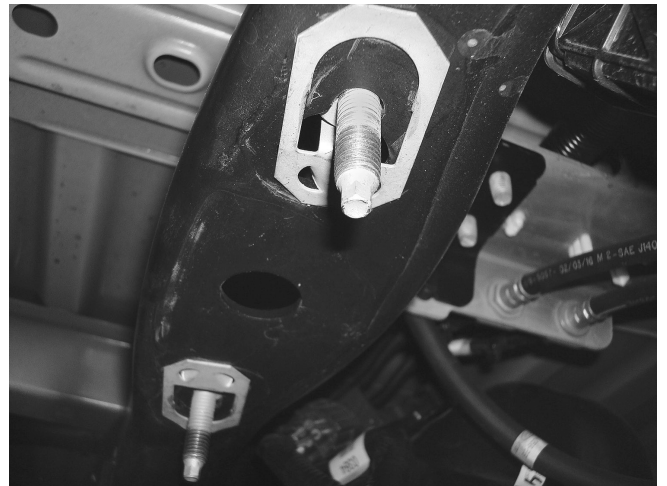

Fig. 3
2. Remove the clip-in studs by prying on the hinged end with a screwdriver to release. Pull all four out of the frame (Fig. 3).